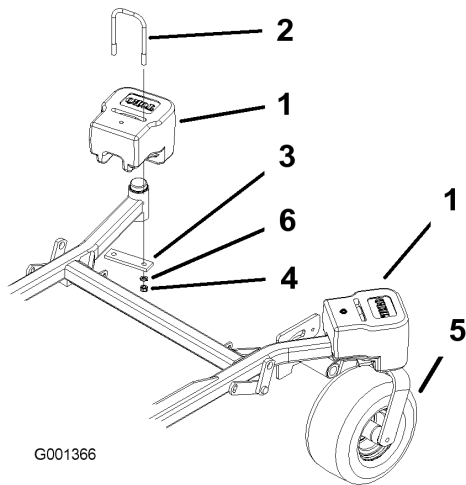

Figure 10
12. Remove the plate, nuts (1/2 inch), and lock washer (1/2 inch) under the frame and weight (Figure 10).